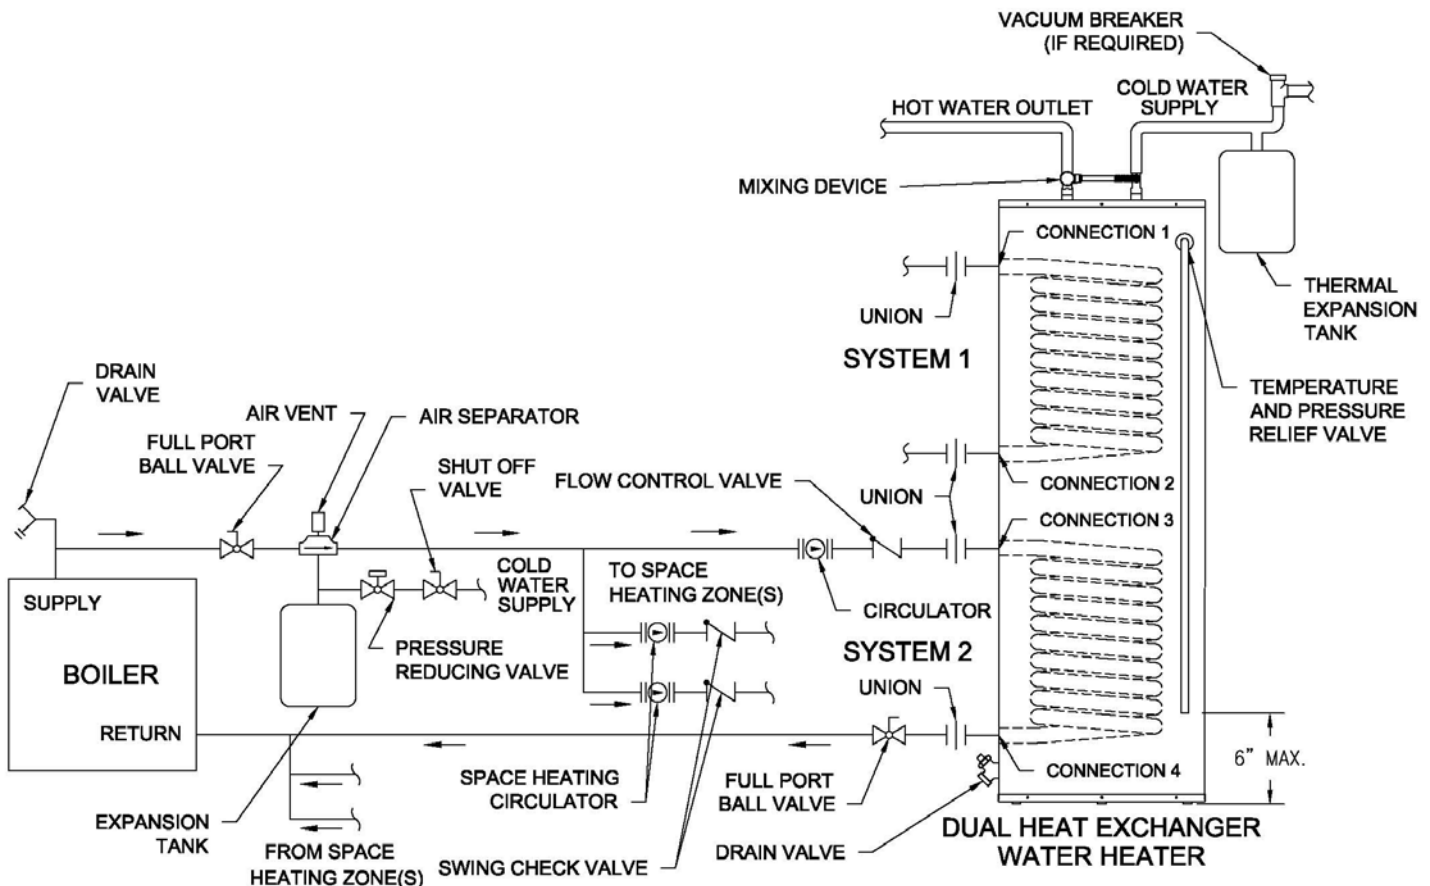

Figure 8 – Boiler Piping in Closed-loop Installation for Single Heat Exchanger
1. For a boiler heating system that utilizes a single heat exchanger, refer to Figure 8. Due to each system being independent of each other, the upper system's connection to heat exchanger 1 is not shown. The indirect water heater connection designated as CONNECTION 3 should be piped to the boiler supply piping. Mount the circulator making sure the flow arrow points toward the water heater. The use of shut-off valves and unions are recommended for future service convenience. The use of an air separator and vent is required to eliminate air in the system. Pipe and fittings between the boiler and indirect-fired water heater must be $\frac{3}{4}$ inch (19 mm) diameter or larger. The indirect water heater connection designated as CONNECTION 4 according to Figure 8 should be piped to the boiler return piping.